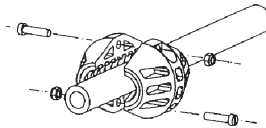

FIG 7.
2. Remove the hose stop (Fig. 7).
2. Ta bort slangstoppet (Fig. 7).
2. Remove the hose stopper (Fig. 7).